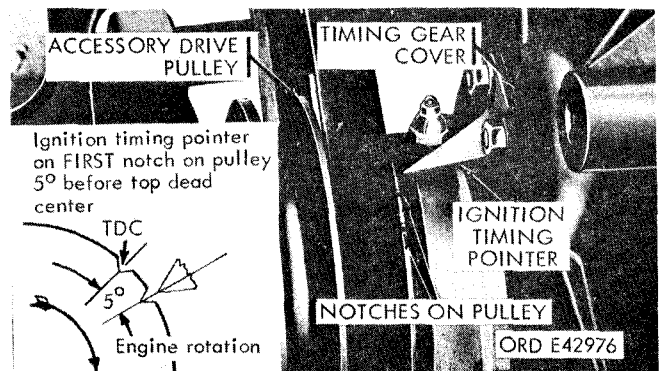

Figure 2-143. Ignition timing indicator.
- (1) Clean, adjust, or replace the distributor points as necessary (para 2-122d).
- (2) Remove the spark plug cable from the No. 1 spark plug; unscrew the coupling nut and screw on the spark plug testing adapter.
- (3) Place the spark plug cable on top of the spark plug testing adapter.
- (4) Fasten the clip of the red lead from the timing light to the terminal on the side of the spark plug adapter.
- (5) Disconnect the battery harness at the generator regulator, and install the regulator testing adapter.
- (6) Connect the harness to the adapter. Turn the voltage selector switch of the timing light to 24 volts.
- (7) Connect the red gloved lead to either terminal on the adapter and the black gloved lead to a suitable ground.
- (8) Apply chalk to the 5-degree BTC mark (fig. 2-143) on the crankshaft pulley to permit easy observation.
- (9) With the engine running at idling speed (450 rpm), direct the beam of light down at the timing pointer on the timing gear cover. If the timing mark is aligned with the pointer when viewed with the timing light, the timing is correct.
(1) Turn the engine in small increments, using the starter (by momentarily depressing the starter button with the ignition switch in the OFF position), until the crankshaft pulley stops so that the top dead center (TDC) timing mark (fig. 2-143) is in line with the ignition timing pointer.
(2) Remove eight screws and lockwashers, and remove the cover and rotor.